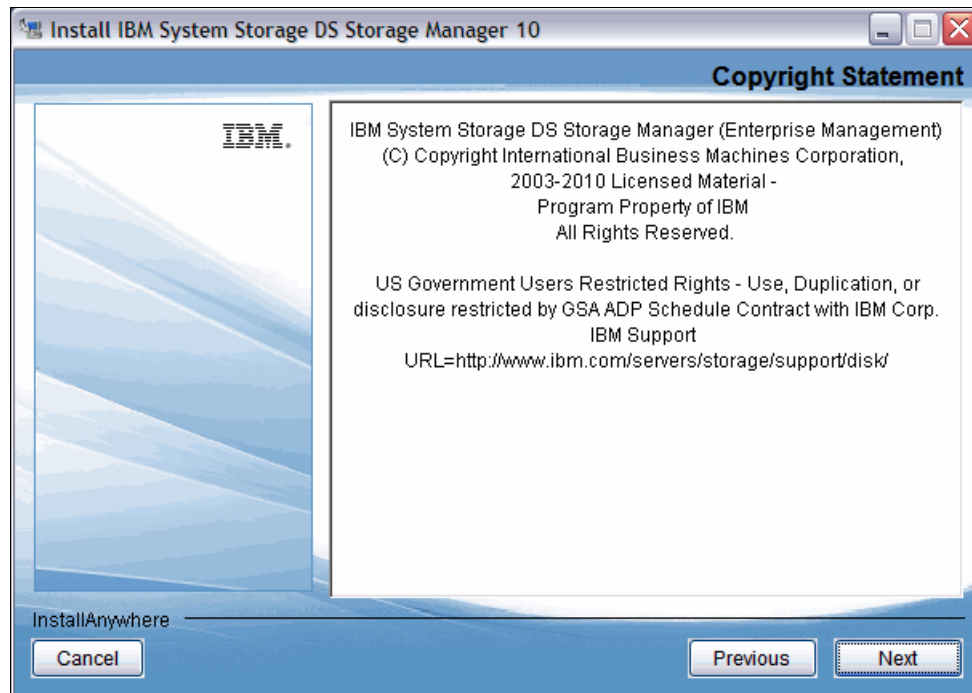

Figure 5-4 IBM DS Storage Manager Copyright Statement
4. Read the copyright statement and click **Next** as shown in Figure 5-4.